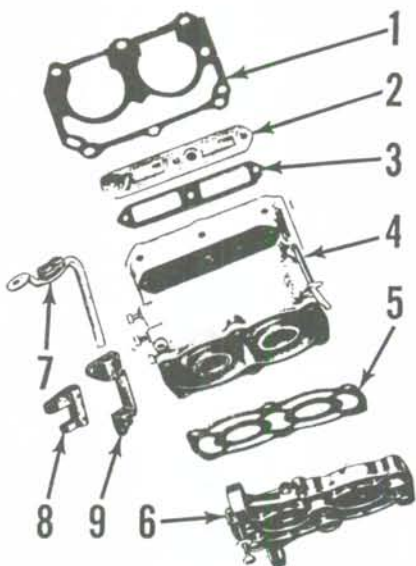

Fig. M1-9—Exploded view of power head cylinder and component parts.
Remove the spark plugs, then unbolt and remove the cylinder assembly from the crankcase, crankshaft and pistons assembly. Cylinder block cover (6—Fig. M1-9) and inlet port cover (2) should be removed for inspection and cleaning of the block.